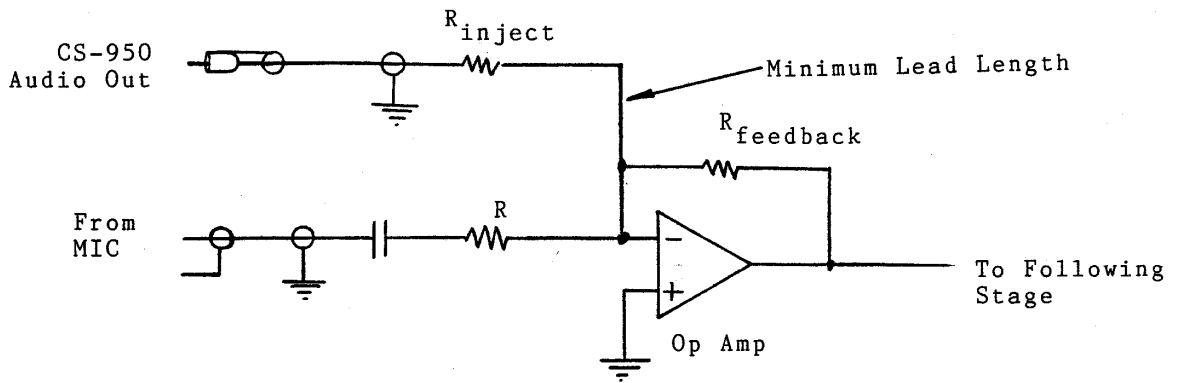

Figure 4
3. Audio out. This connection is not necessarily straight forward. The **CS-950** should be connected in a fashion that will not load down the local microphone. If the radio has a point provided to inject tone audio from an external encoder, try injecting the **CS-950** audio here. Since no two radios will be alike we can only suggest injection interfaces in general terms. Refer to figure 4. Many radios use integrated operational amplifiers as microphone pre-amps. If the circuit resembles figure 4 try injecting the audio through a resistor (Rinject) into the summing node as shown. Rinject should be equal in value to MIC input resistor "R". The added resistor must be physically adjacent to the op amp.